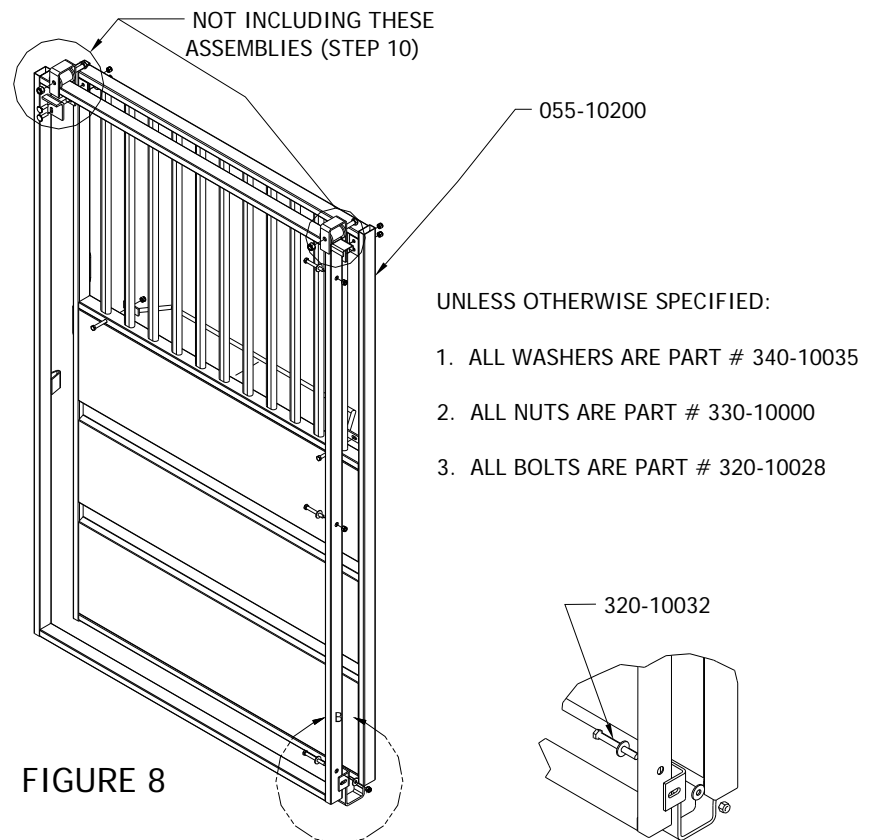

FIGURE 8
Locate and place the door guide on to the middle support tubes at the bottom of both the front panel and door frame as shown in figure 8. Secure them together with a (1) 3/8" x 3-1/4" hex bolt, (2) 3/8" washers, and (1) 3/8" lock nut as shown in figure 8.
Finish securing the front and frame together using (2) 3/8" x 2-3/4" hex bolts, (4) 3/8" washers, and (2) 3/8" lock nuts (figure 8).